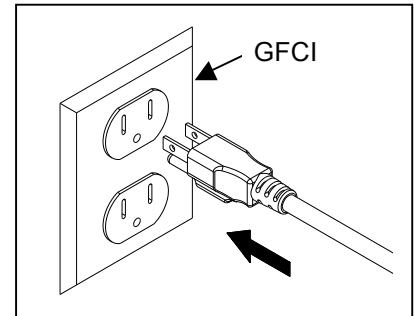

Fig. 10
10. Connect the UV clarifier plug into a properly grounded electrical outlet. Fig. 10